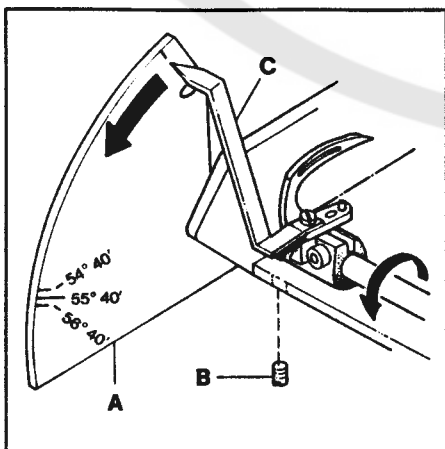

FIG. 6
Attach looper travel gauge plate (A, Fig. 6) to the rear of the cylinder arm. Set the bottom of the gauge so it is approximately horizontal and lock lightly in place with screw (B) directly underneath. Attach looper travel gauge pointer (C) to the looper using the left needle guard screw hole. Turn the handwheel in operating direction until the looper is positioned to the far right. Set pointer (C) at zero degrees by rotating gauge plate (A) and lock in place. Continue turning the handwheel until the pointer stops. If the looper travel is correct the pointer should indicate 55°40'.